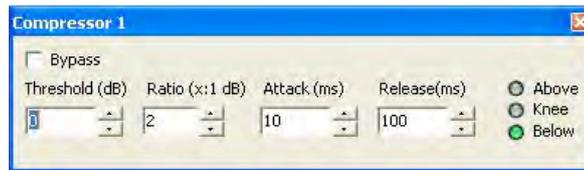

Figure 4-11: Compressor Controls
- Compressor: The compressor is a simple soft knee device shown in Figure 4-11 below. The threshold sets the level at which the compressor starts operating and the ration sets the amount of compression.